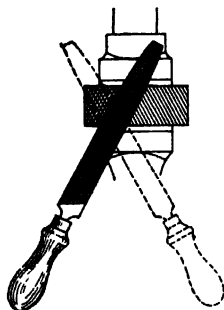

Fig. 5-16.
**Operation of Filing.** If the work is cast iron the scale should be removed, possibly by chipping, before an attempt is made to file the surface. A few strokes on cast-iron scale will ruin a file. When rough filing it will be found that "crossing the stroke" (Fig. 5-16) at short intervals will rest the arms. It also serves to show the beginner where he tends